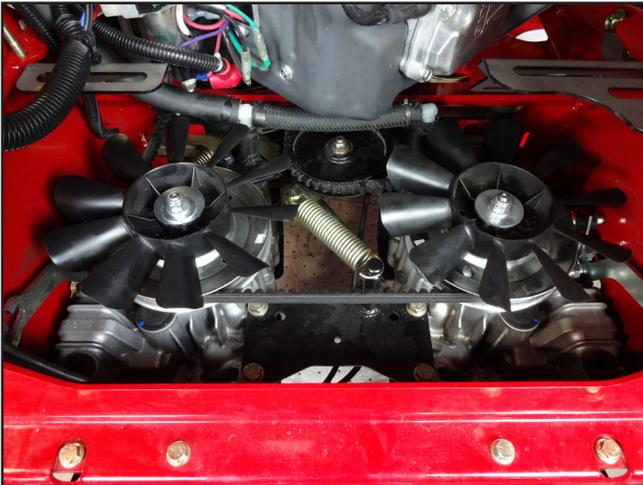

Figure 34
6. Route the drive belt to the engine and the IHT's (Figure 34).